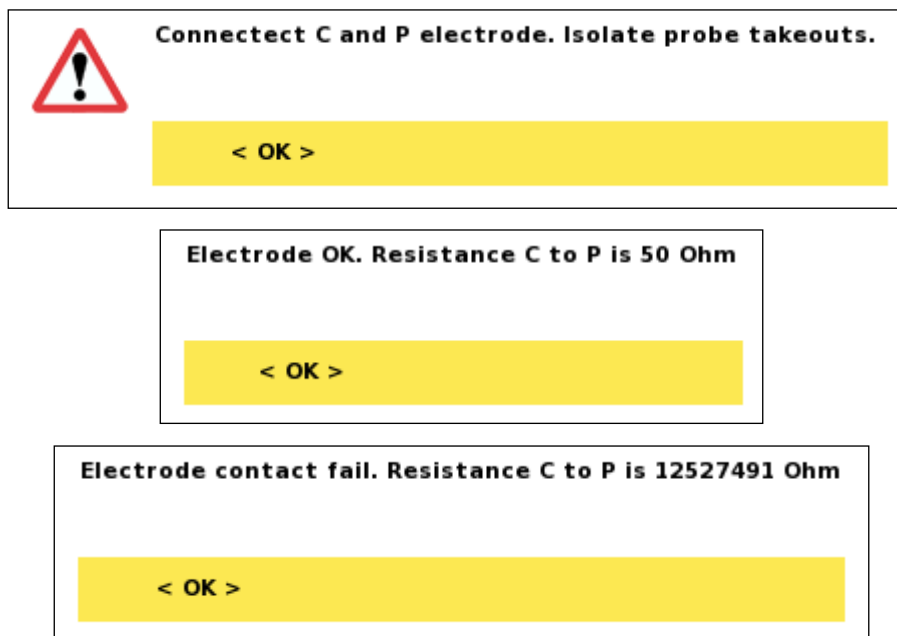

Figure 82 The Electrode Test dialogs
- Follow the instruction on the first dialog (Figure 82)